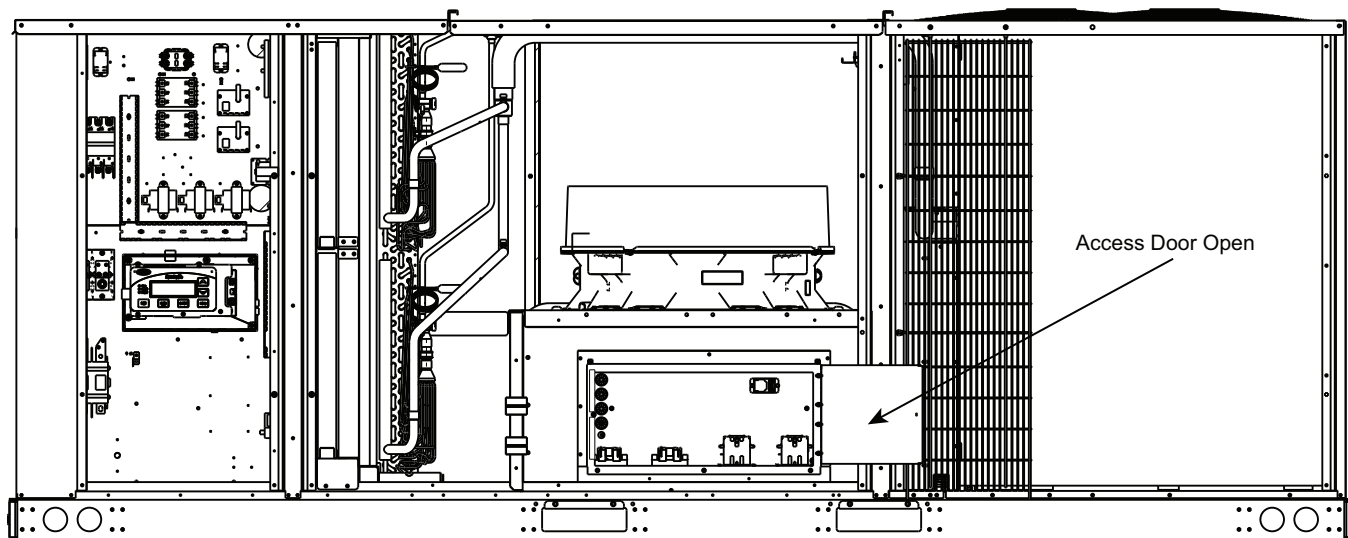

Fig. 48 — Electric Heater Accessory In Place (Shown with Access Door Opened)
5. Slide heaters until completely installed such that heater controls are completely in the unit. Using screws saved from Step 3, secure heater assembly. (See Fig. 48.)